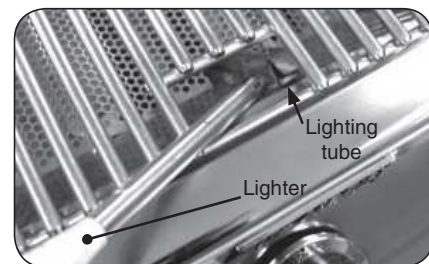

Fig. 17-2 - Manual lighting
2. Insert either a burning long-barrel butane lighter or a burning long-stem match through the cooking grid opening to the top of the lighting tube. (Fig. 17-2). For backburners, hold the flame against the surface of the backburner. For charcoal burners, hold the flame near the burner.
4. If the burner does not light, **immediately depress the knob and turn the valve to OFF**. **WAIT FIVE (5) MINUTES** before repeating steps 2 through 4 of the **MANUAL LIGHTING** instructions.